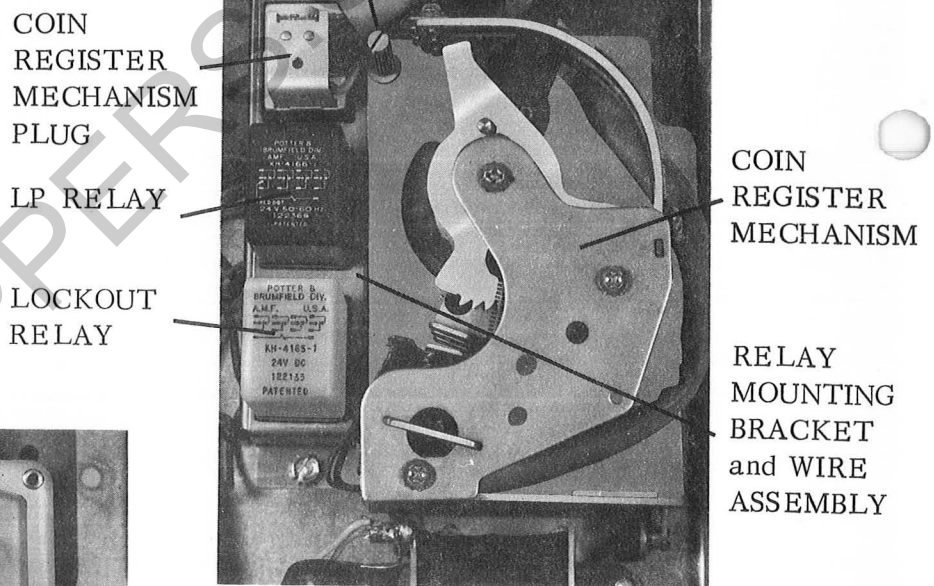

Figure 4.
25. Reinstall RELAY MOUNTING BRACKET and WIRE ASSEMBLY on Selector Mechanism Assembly as shown in Figure 4 and secure with two screws removed in Step 8.
26. Install new White LOCKOUT RELAY, Part No. 122133, in Lockout Relay Socket as shown in Figure 4.
27. Install Red LP RELAY, removed in Step 7, in LP Relay Socket as shown in Figure 4.
29. Reinstall COIN REGISTER MECHANISM in Selector Mechanism Assembly. Secure with THUMB SCREW removed in Step 4 as shown in Figure 4.
30. Reconnect COIN REGISTER MECHANISM PLUG in Coin Register Mechanism Socket as shown in Figure 4.